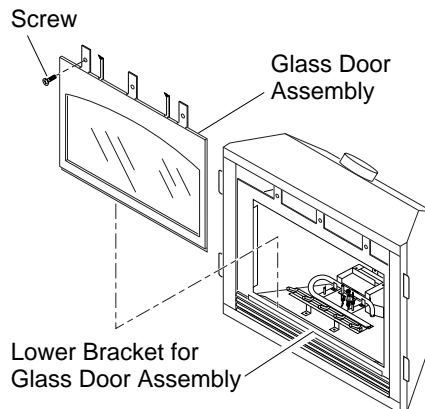

Figure 3 - Removing/Replacing Glass Door
2. Using a 3/8" socket or slotted screwdriver remove the screws from the three tabs at the top of the glass door (see Figure 3). Hold glass door securely to keep it from falling forward.
3. Grasp door by both sides and ease it upward off the lower bracket (see Figure 3).